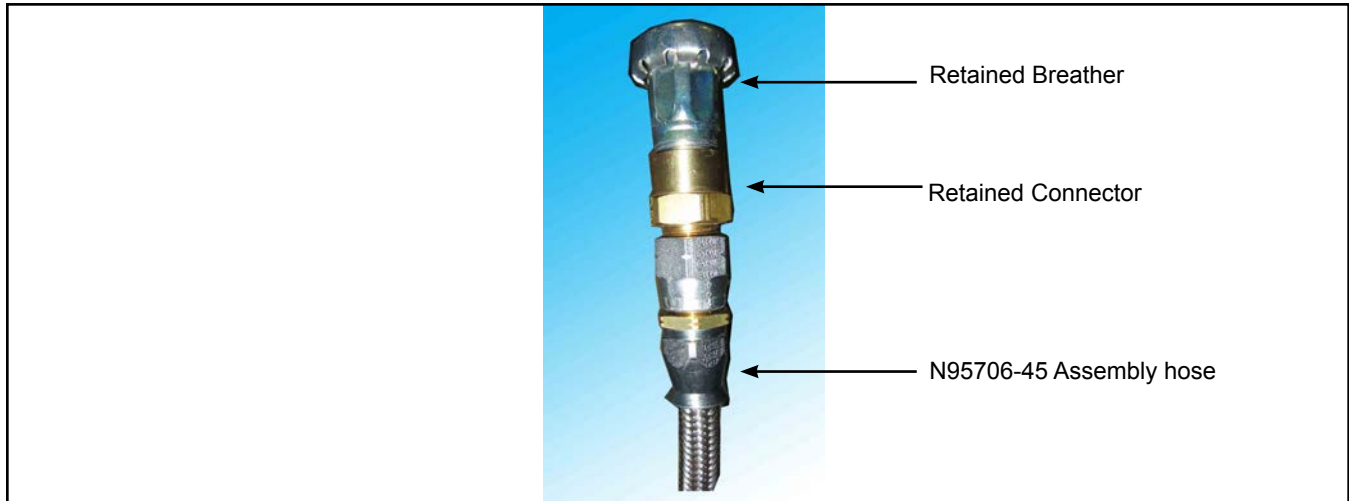

Figure 9 - Connector Installed on Assembly Hose
- 1.14. Install the retained connector to the N95706-45 assembly hose. Apply white thread sealer, Loctite 565, or equivalent. See Figure 9.